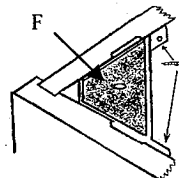

Figure 9
8. Install Corner Braces (Figure 9) and insert the drawer: place the corner braces (F) on each top corner of the cabinet and secure them with 1/2" Corner Brace screws. Slide the drawer into the rail and check the drawer position and adjust the drawer slide rail location for the best operation if necessary.